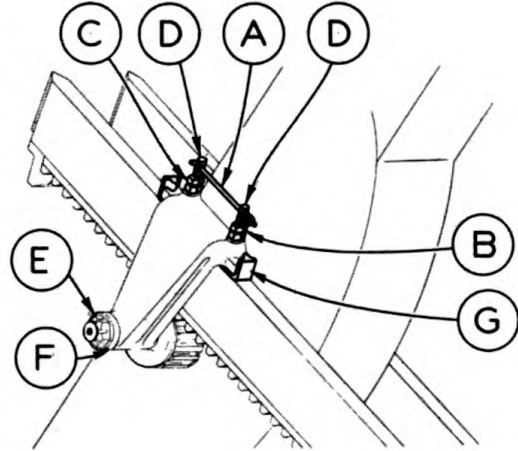

FIGURE 81
number of teeth between pinions and end of rack to be sure there are an equal number on both sides. To place saddle blocks in proper position, remove nut (E), Figure 81, Page 101, on one end of the shipper shaft; remove thrust washer (F) behind the nut, then slide the saddle block out to a little beyond the width of the dipper stick. (Do not pull the saddle block off the shaft for this particular adjustment as it is heavy and will require added time and labor to replace.) Hold the gib (G) in place, and swing the saddle block up so the gib and saddle block will clear the top of the dipper stick, then slide the saddle block and gib in place so that gib is between saddle block and stick. Replace thrust washer and nut on the end of the shaft. Draw nut up tight, using a hammer on the special wrench furnished with the shovel attachment. Insert cotter in shaft and open. Place the other saddle block in a similar manner. Remove dipper hoist cable from dipper sticks and reeve it through dipper sheave block as described on page (85). Grease the tops of the dipper sticks and the racking. Raise the boom to an angle of approximately 40 degrees. Wind the hoist cable and lift dipper about 3 feet off the ground. Shift lever No. 9 page 42, to racking-in position. Crowd out and rack-in the dipper sticks several times using Lever No. 4. Do not strike the stops at either end of the dipper sticks. If racking teeth do not mesh properly with shipper shaft pinions, adjust saddle block gibs as described on Page 101. Adjust crowd chain as described on Page 102. Adjust right hand drum clutch as described on Page (88) to be sure it does not back-lock. Adjust dipper trip clutch as described on Page 103.
**SADDLE BLOCK GIBS:** (Figure 81)